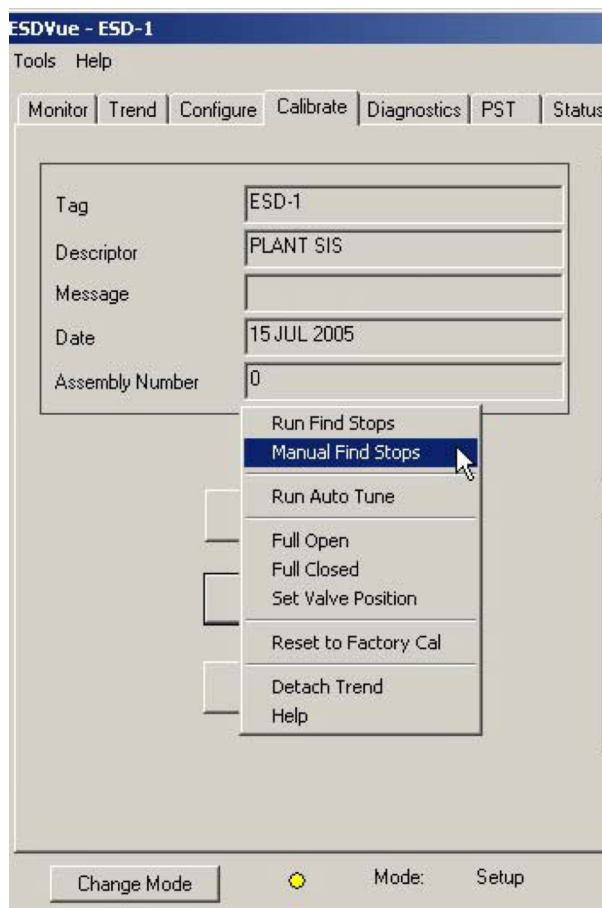

Figure 327 - Selecting Manual Find Stops
1. Select **Manual Find Stops** (*Figure 327*).